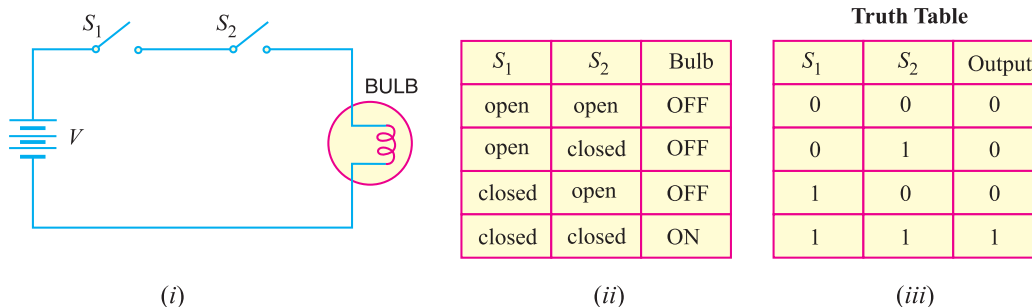

Fig. 26.5
Since a logic gate is a switching circuit (i.e. a digital circuit), its output can have only one of the two possible states viz., either a high voltage (1) or a low voltage (0) — it is either *ON* or *OFF*. Whether the output voltage of a logic gate is high (1) or low (0) will depend upon the conditions at its input. Fig. 26.5 shows the basic idea of a *logic gate using switches.